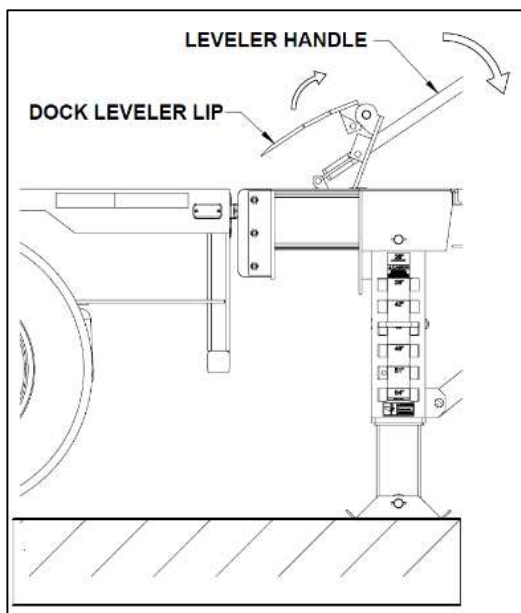

Figure 10b. Raising the leveler
2. Pull back on the handle until the leveler is fully raised (see Figure 10b).